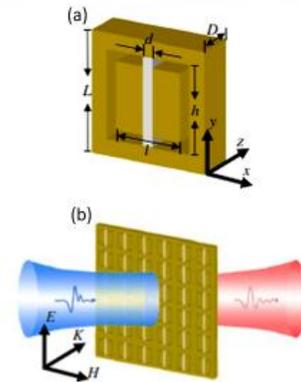

Fig. 6: (a) Geometric structure of a unit cell; and (b) Schematic view of the device
- Design of B-shaped metallic hole array filter with thermally tunable InSb as shown in figure 6.